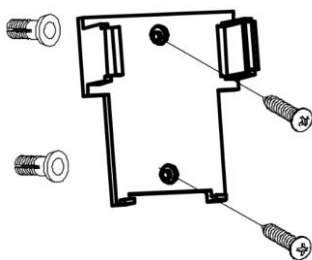

Fig. 9a
1. Locate a suitable wall to fix the remote control holder with the 2 screws & 2 anchors. (Fig.9a).